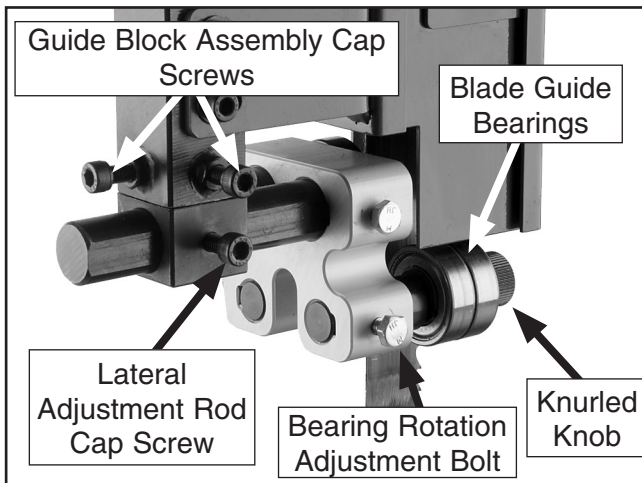

Figure 22. Upper blade guide controls (rear view).
3. Familiarize yourself with the blade guide controls shown in **Figure 22 & 23**.
3. Familiarize yourself with the upper support bearing controls shown in **Figure 22 & 23**.